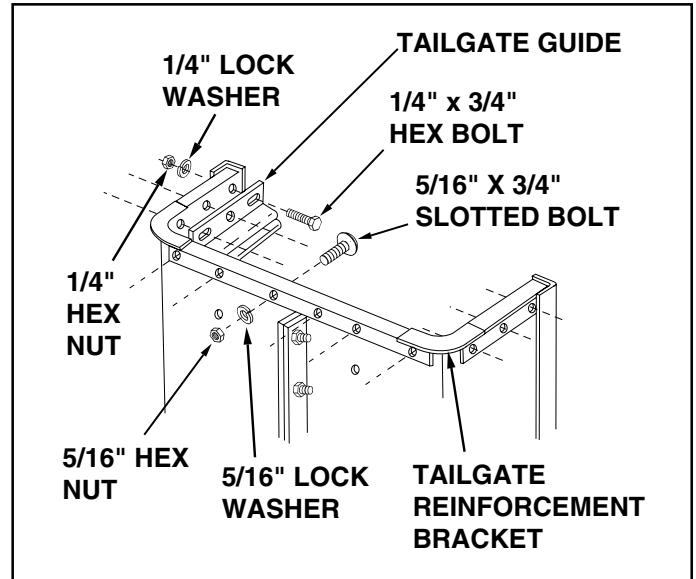

FIGURE 3
5. Position the tailgate reinforcement bracket on outside of cart as shown in figure 3. Assemble to the bottom of the cart body using six 5/16" x 3/4" slotted head screws, 5/16" lock washers and 5/16" hex nuts. **Do not tighten.** See figure 3.
6. Position the tailgate guides on the inside of the cart bodies with guide channels to the front as shown in figure 3. Assemble using six 1/4" x 3/4" hex bolts, 1/4" lock washers and 1/4" hex nuts. **Do not tighten.**